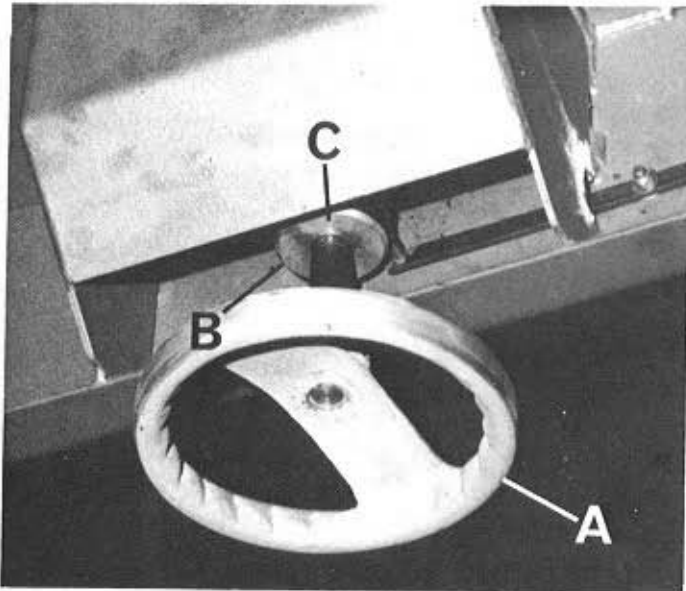

FIG 11
3. Check that scale indicates correct sawblade width. If scale is incorrect, tension sawblade to maximum tension by handwheel "A", FIG.11.